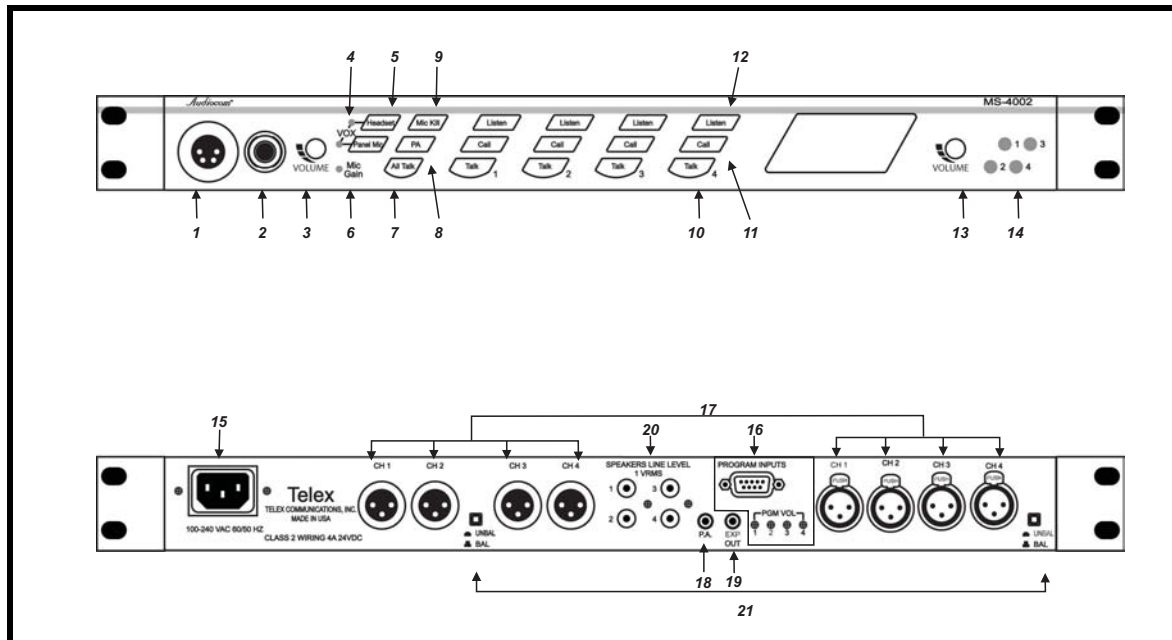

Figure 1. MS-4002 Reference View
The MS-4002 mounts in a standard 19-inch equipment rack and is 1 rack unit (RU) high. When mounting the MS-4002, install the supplied black face plates on the appropriate sides. The face plates should be mounted with the grooves on the top, see Figure 1, “MS-4002 Reference View,” on page 2.